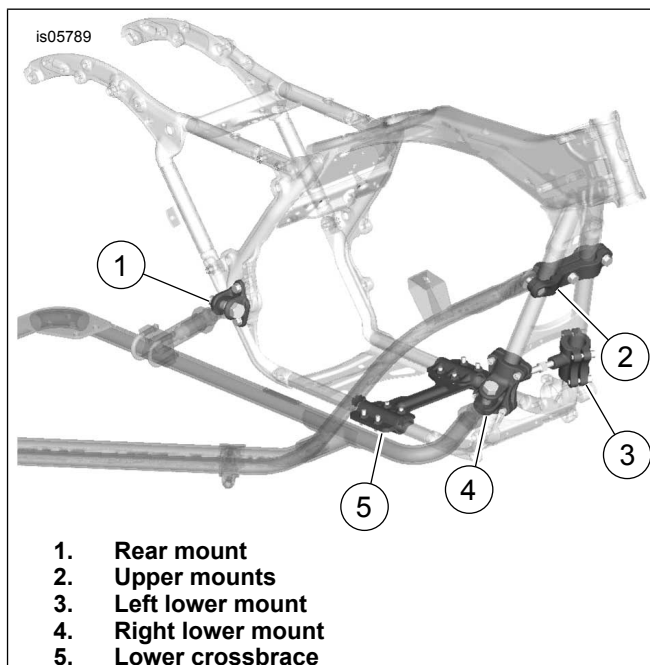

Figure 2. Crossbrace and Mounts Locations
7. See Figure 2. Install rear sidecar frame mount.
a. Position the rear mount (1) over the two mounting holes.